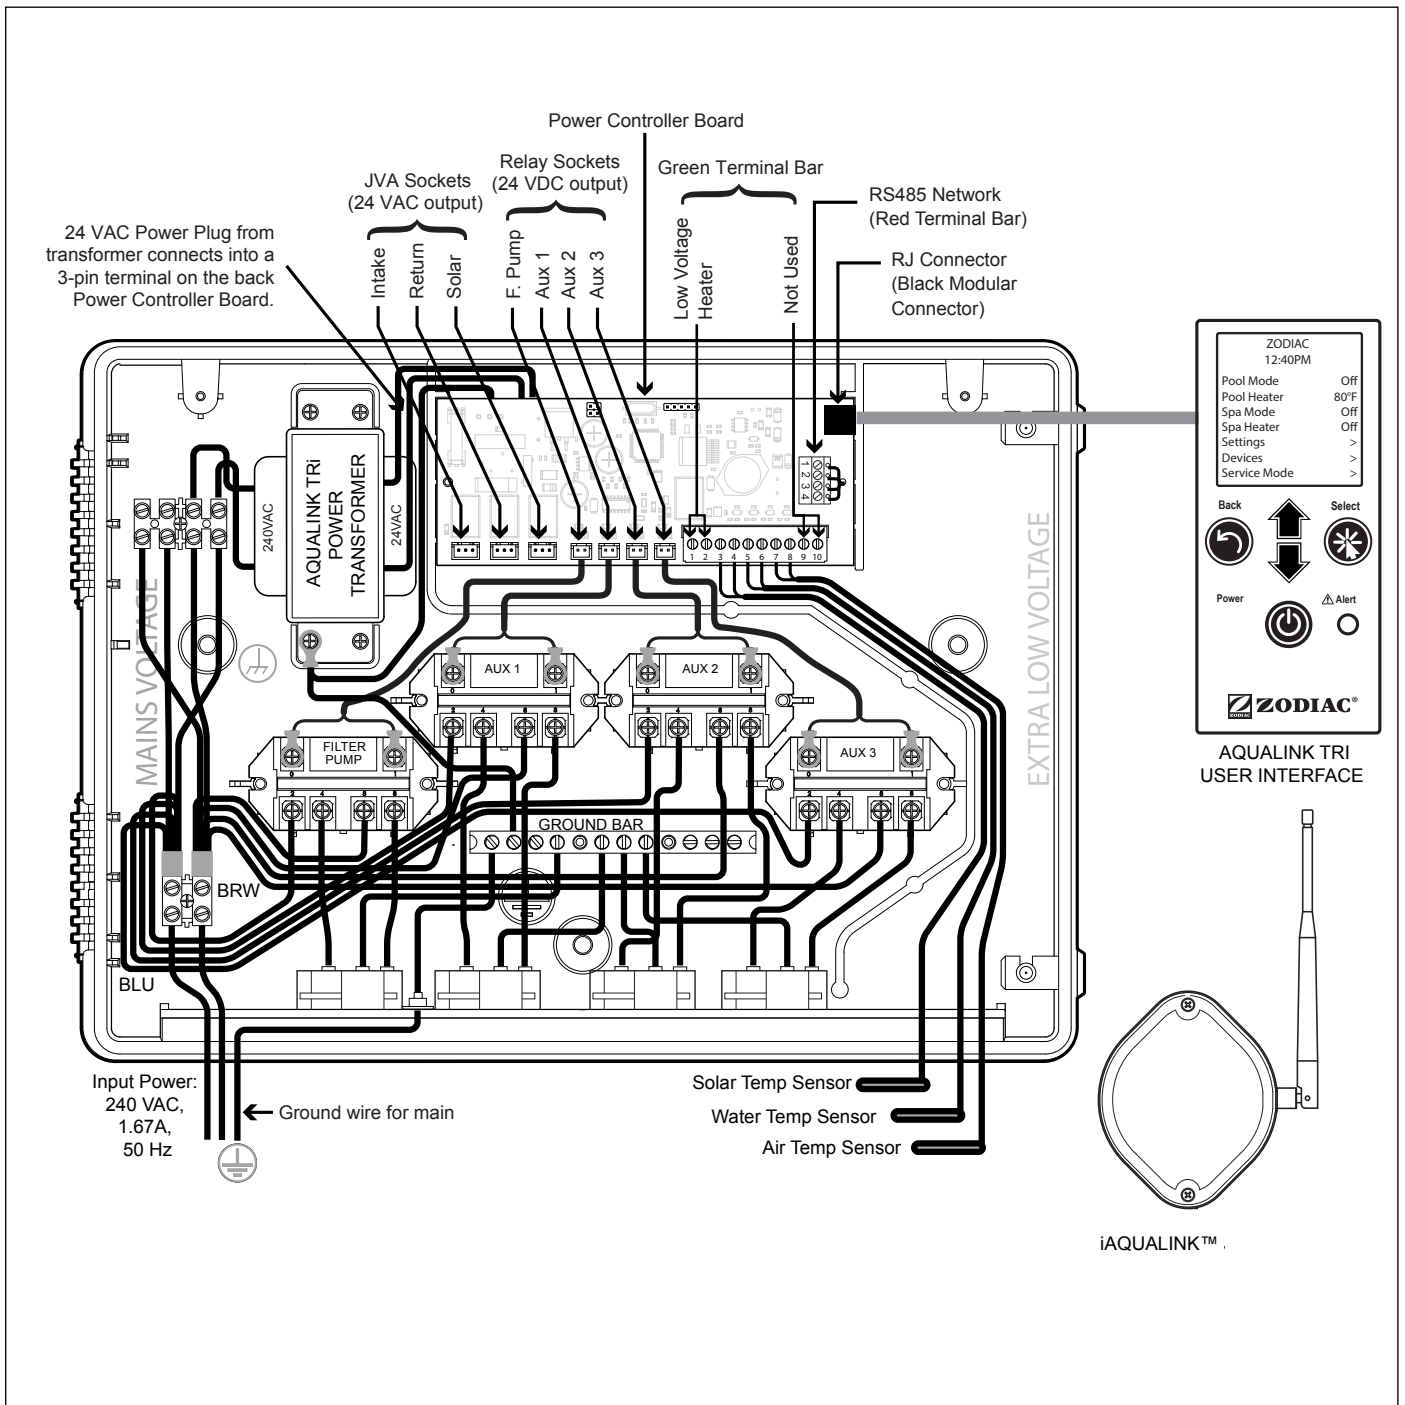

Figure 2. AquaLink TRI Controller Electrical Wiring Diagram
**NOTE:** See *Figure 2. AquaLink TRI Electrical Wiring Diagram* for specific wire locations and connections.
Wire the temperature sensors on the 10-pin green connector (see Figure 2. Wiring Diagram). The air temperature sensor is factory-installed on the 10-pin green connector (pins 7,8). The water temperature sensor and necessary installation hardware is included.
If there is additional extra low voltage equipment installed, such as extra low voltage heating, wire temperature sensor to pins 1, 2 on the 10-pin green connector (see Figure 2. Wiring Diagram).
3. Plug JVAs in as shown in Figure 2. Wiring Diagram.